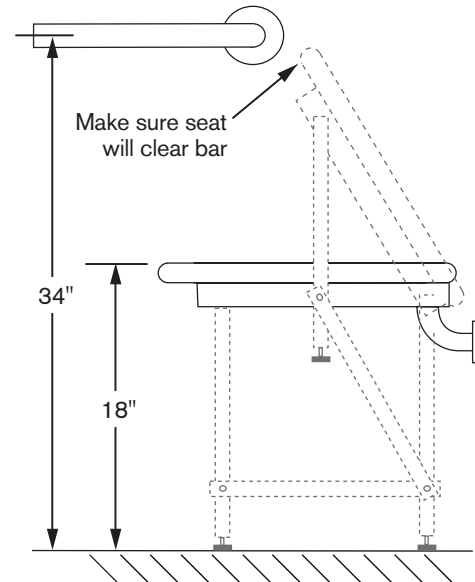

Figure 1
1. The seat should be installed 18" above the floor. Install the grab bar 34" above the floor to ensure that the seat will not swing up and hit the grab bar (Figure 1). Use a pencil to mark the seat flange and bracket hole locations on the wall.